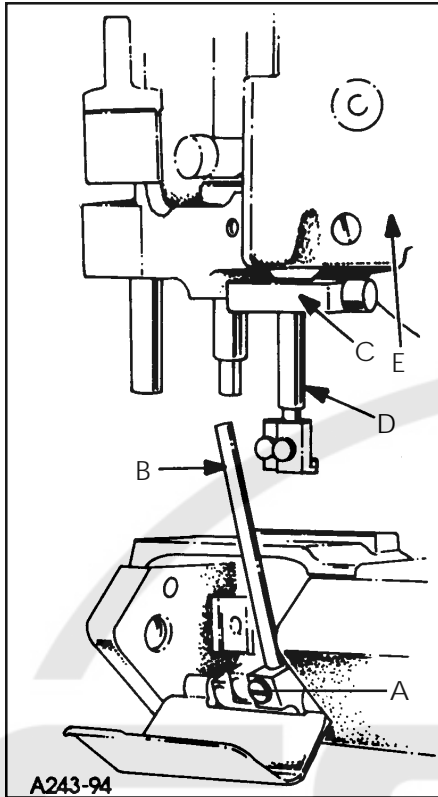
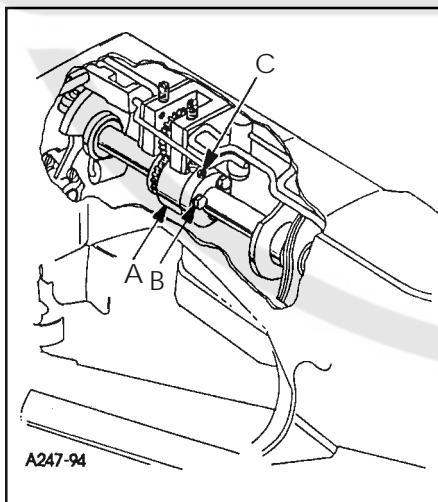

FIG. 2
FIG. 3
To synchronize the machine, remove the needles, presser foot, throat plate, feed dogs and upper feed roller mechanism. Rotate handwheel in the operating direction until the needle bar is at the bottom of its stroke and just begins its upward travel. Loosen screw (A, Fig. 2) and remove the looper for the left hand needle from the looper holder. Insert a straight steel rod (B) $5/32"$ (3.9mm) or $11/64"$ (4.3mm) diameter by $2-1/2"$ (63.5mm) long into looper holder and retighten screw (A). It may be necessary to reposition the looper holder so that the rod (B) will be in a vertical position when at its farthest travel to the right. Rotate the handwheel until the rod is at extreme left, reinstall the throat plate. Turn the handwheel in the operating direction, with needle bar rising until rod (B) comes in contact with the edge of the throat plate. At this point, clamp Union Special timing gauge TT147 (C) around the needle bar (D), flush against the underside of the machine casting (E). Rotate handwheel in the opposite direction until either the gauge contacts the machine casting on the up stroke of the needle bar or the rod contacts the edge of the throat plate. Maximum allowable clearance between gauge and casting or rod and throat plate is $.005"$ (0.1mm)
Both ends of the adjustable split coupling are secured to the crankshaft and main shaft by spot screws and set screws. On the main shaft end of the coupling (A, Fig. 3) three screws (B) thread horizontally through the coupling. The holes in the main shaft end of the coupling are larger than the diameter of the screws, permitting several degrees of rotation in either direction to properly synchronize the needle and looper. Loosen the three horizontal clamp screws (B, Fig. 3). With rod (B, Fig. 2) at its farthest position to the left, snug the uppermost horizontal clamp screw enough to hold coupling (A, Fig. 3) in position. If the handwheel is turned in reverse of operating direction and gauge (C, Fig. 2) on needle bar (D) contacts the machine casting (E) before rod (B) contacts the edge of the throat plate, loosen horizontal clamp screw (B, Fig. 3) which was snug, while holding the coupling in place with an Allen wrench in set screw (C). Rotate the handwheel slightly in reverse of operating direction, snug the uppermost horizontal clamp screw (B), recheck synchronization. If the handwheel is turned in reverse of operating direction and the rod contacts the edge of the throat plate before the clamp gauge contacts the machine casting, adjust as before, except turn the handwheel slightly in the
operating direction. Use shim stock to insure no more than $.005"$ (0.1mm) exists between gauge and casting or between rod and throat plate, in both the operating and reverse directions of the handwheel. When this setting has been made, tighten the three horizontal clamp screws (B, Fig. 3) securely, and recheck both clearance points with $.005"$ (0.1mm) shim gauge to assure no slippage occurred while tightening the screws.